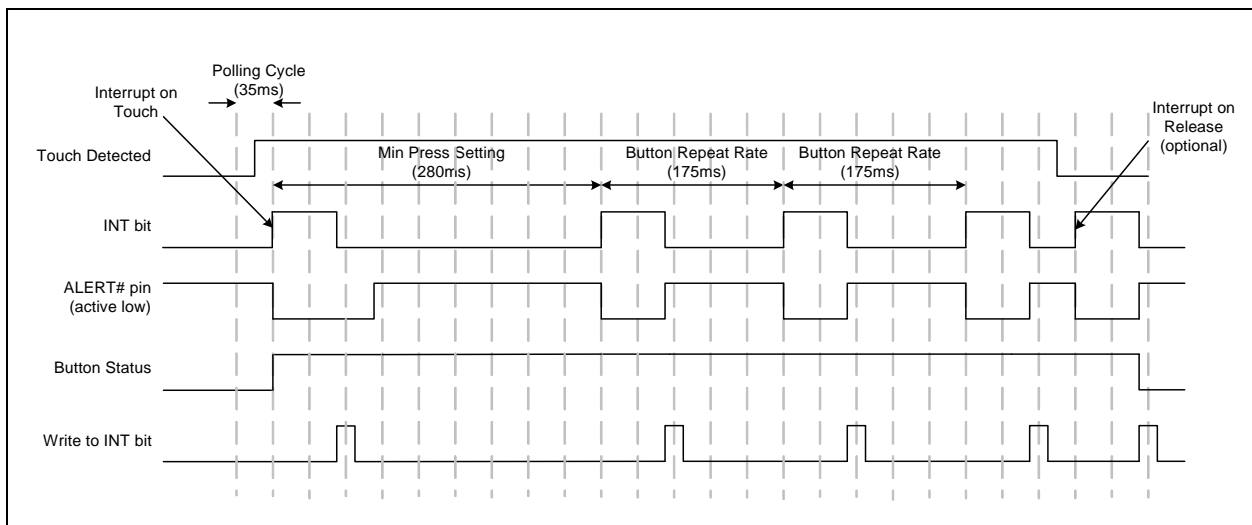
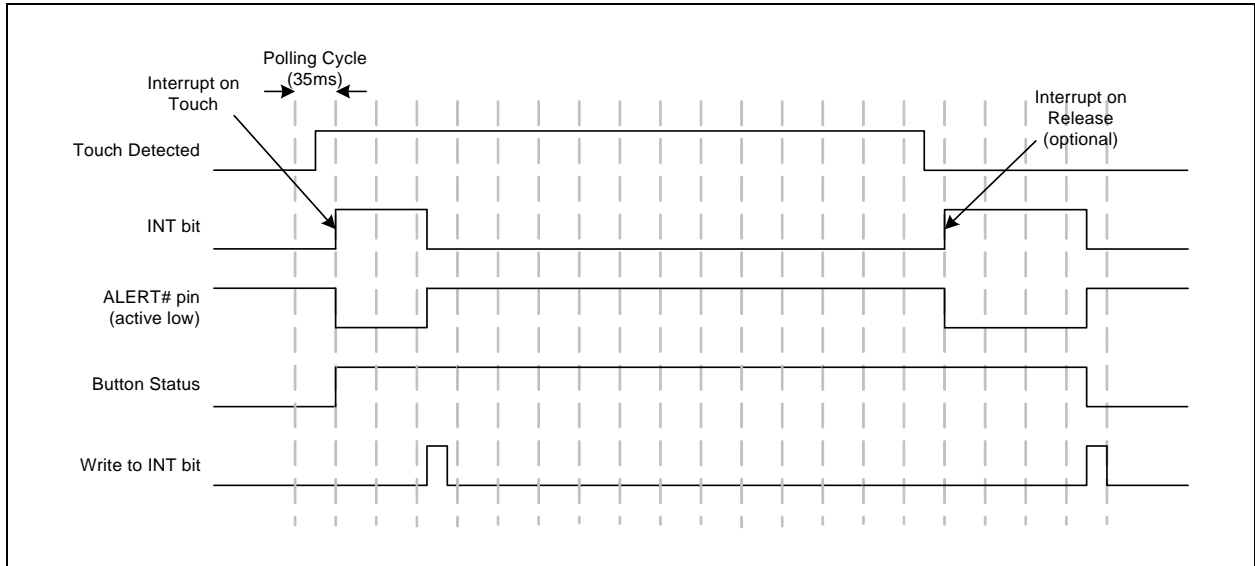

Figure 4.3 Sensor Interrupt Behavior - Repeat Rate Enabled
Figure 4.4 Sensor Interrupt Behavior - No Repeat Rate Enabled
1. An interrupt is generated when a touch is detected and, as a user selectable option, when a release is detected (by default - see Section 5.6). See Figure 4.4.
2. If the repeat rate is enabled then, so long as the touch is held, another interrupt will be generated based on the programmed repeat rate (see Figure 4.3).
APPLICATION NOTE: Figure 4.3 and Figure 4.4 show default operation which is to generate an interrupt upon sensor pad release and an active-low ALERT# pin.